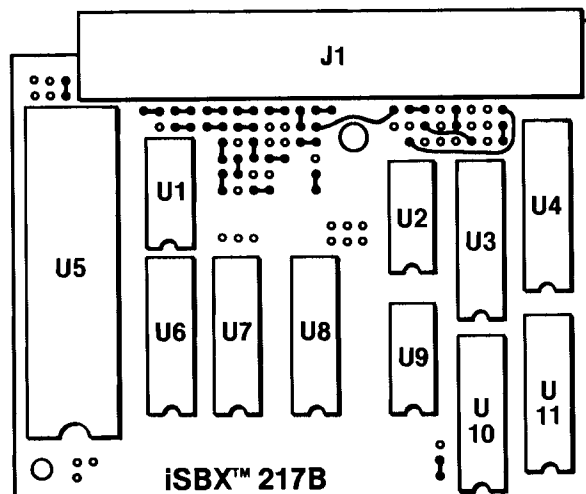

Figure 2-4. 3M Jumper Configuration
Jumpers are used to define the type of tape drive in use. Table 2-1 and Figure 2-3 summarize the jumper configuration for the Archive drive interface (factory default configuration); Table 2-2 and Figure 2-4 give the jumper configuration for the 3M drive interface.
- c. Insert the push-on jumpers as shown in Figure 2-4 and Table 2-2.